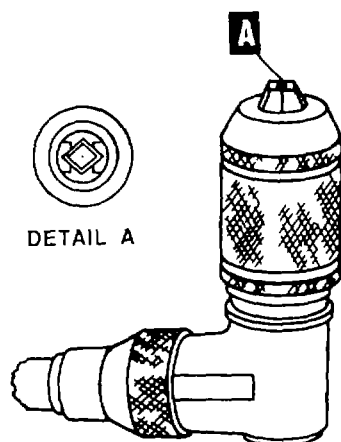

Figure 4-82. V-Grooves in Drill Jaws
- (c) Tighten the chuck by turning the handle to close the jaws. Ensure that the bit is firmly seated within the V-grooves machined into the jaws, as shown in figure 4-82.